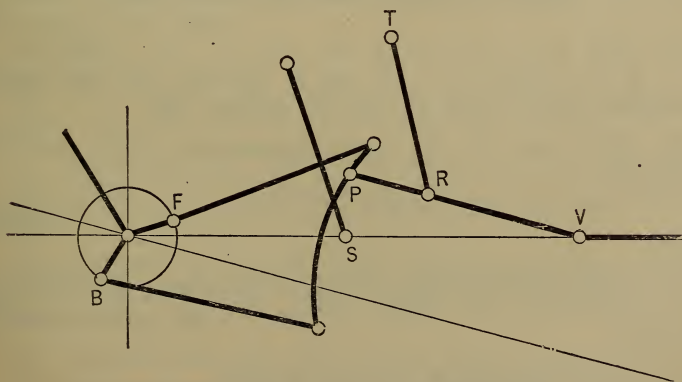

Fig. 166. Gooch Valve Gear, Open Rods.
A. It must be equal that of the radius rod, as in Fig. 166.